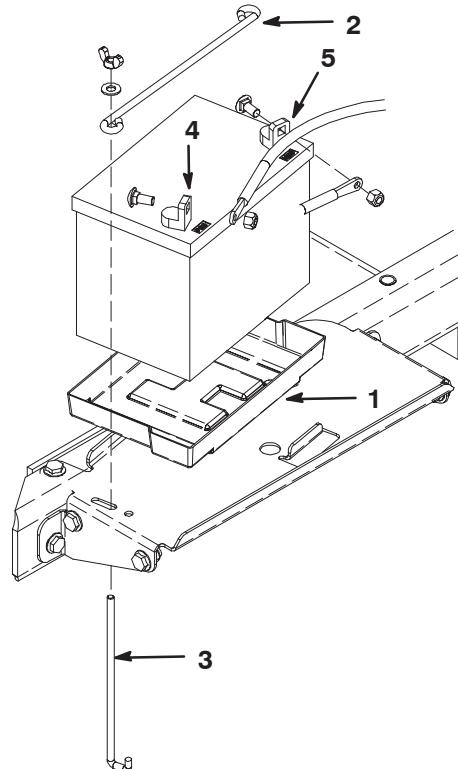

Figure 5
8. Insert the battery into the tray in the battery compartment (Fig. 5) Position the battery so the terminals are to the outside.
9. Secure battery to compartment base with a battery rod, (2) hold down rods, (2) flat washers and (2) wing nuts (Fig. 5).
10. First, secure the positive cable (red) to the positive (+) battery terminal with a carriage bolt and nut (Fig. 5), then the negative cable (black) to the negative (−) terminal of the battery with a carriage bolt and nut (Fig. 5). Slide the rubber boot over the positive terminal to prevent a possible short from occurring.